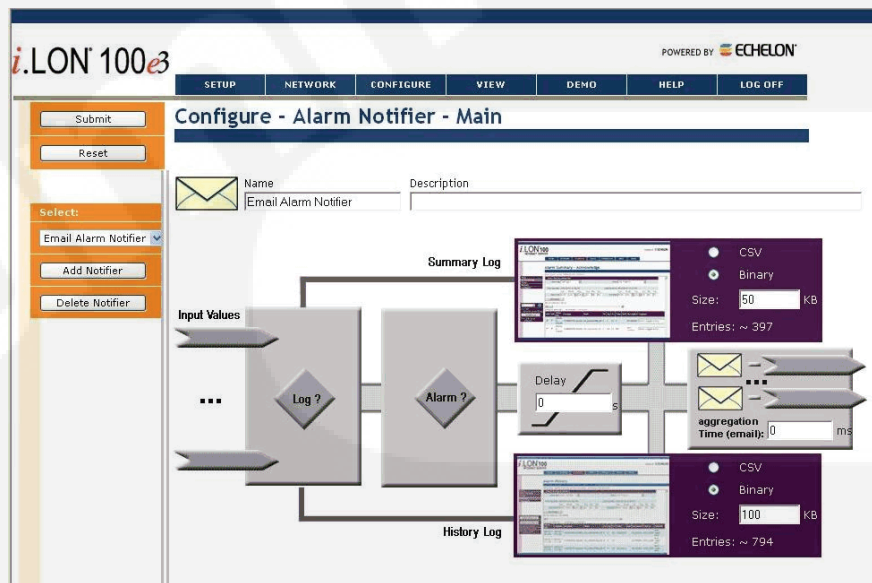

FIGURE 6-5. ALARM NOTIFIER DIALOG BOX
**NOTE:** For a description of the symbols you can add, click on **Help** at the top of the Alarm Notifier page (see Figure 6-5).
3. The Alarm Notifier Dialog Box appears (see Figure 6-5).
1. Navigate to the Alarm Log Data Point web-page (see Figure 6-5).